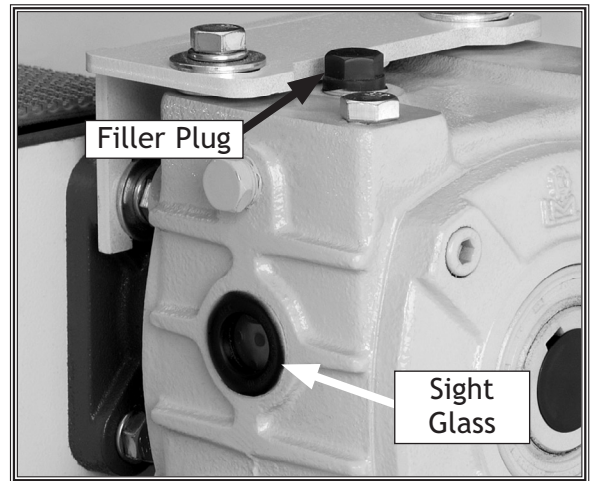

Figure 27. Gear reducer breather and filler plug.
- **After the First 100 Hours:** Replace the conveyor gear reducer oil (Figure 27) after the first 100 working hours of operation. We recommend 90 Wt. gear oil.